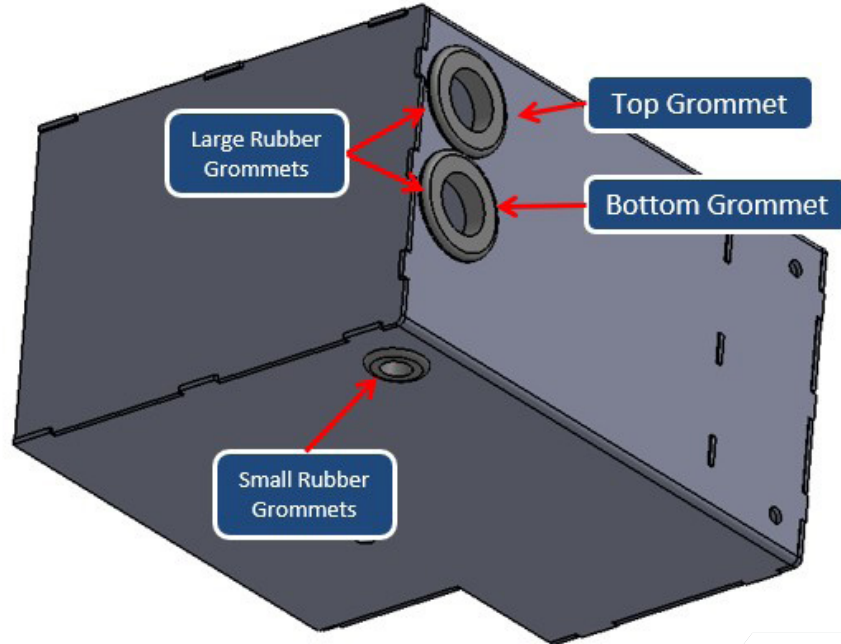

FIGURE 7
21. Install the two larger rubber grommets into the openings at the back of the heater box. Install the remaining small rubber grommet at the bottom opening. **FIGURE 7**